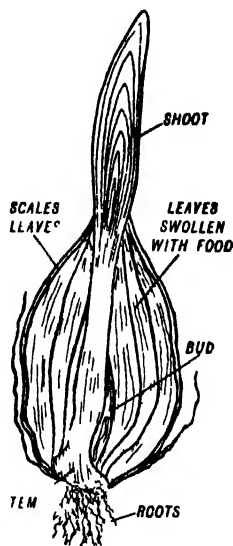

Fig. 132 Bulb cut in two
4. Bulbs. If you cut an Onion in two lengthwise you will see its structure (Fig. 132). At the base of the bulb there is a small
pointed stem from the under side of which roots arise. The remainder of the bulb consists of leaves which are swollen with food. These leaves are protected on the outside by other scale-like leaves. The way in which these leaves are arranged may be compared with the arrangement of leaves in an ordinary bud. A bulb is really a large bud, whose leaves are swollen with food. A new bulb arises as a small bud on the short stem at the base of one of the fleshy leaves (Fig. 132).